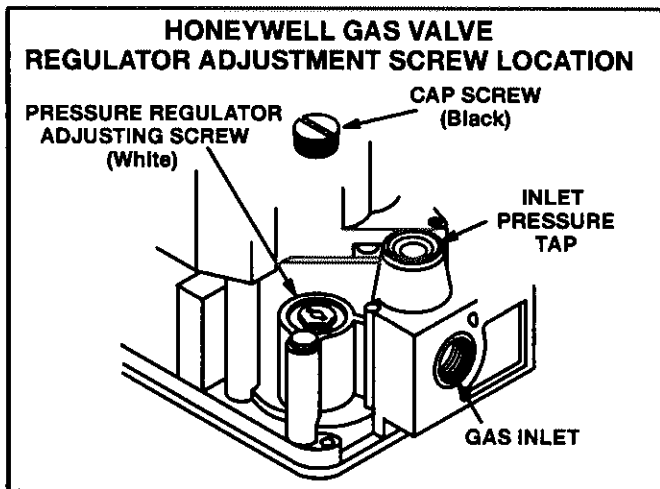

FIGURE 26
- 2- After line pressure has been checked and adjusted, check regulator pressure. Correct manifold pressure for LP/propane gas is 10.0 in. w.c. A natural gas to LP/propane gas changeover kit is required to convert unit. Refer to the installation instructions supplied with changeover kit for conversion procedure. Correct regulator pressure for natural gas at altitudes below 2000 ft. is 3.5 in. w.c. See figure 26 for gas pressure adjustment screw location.